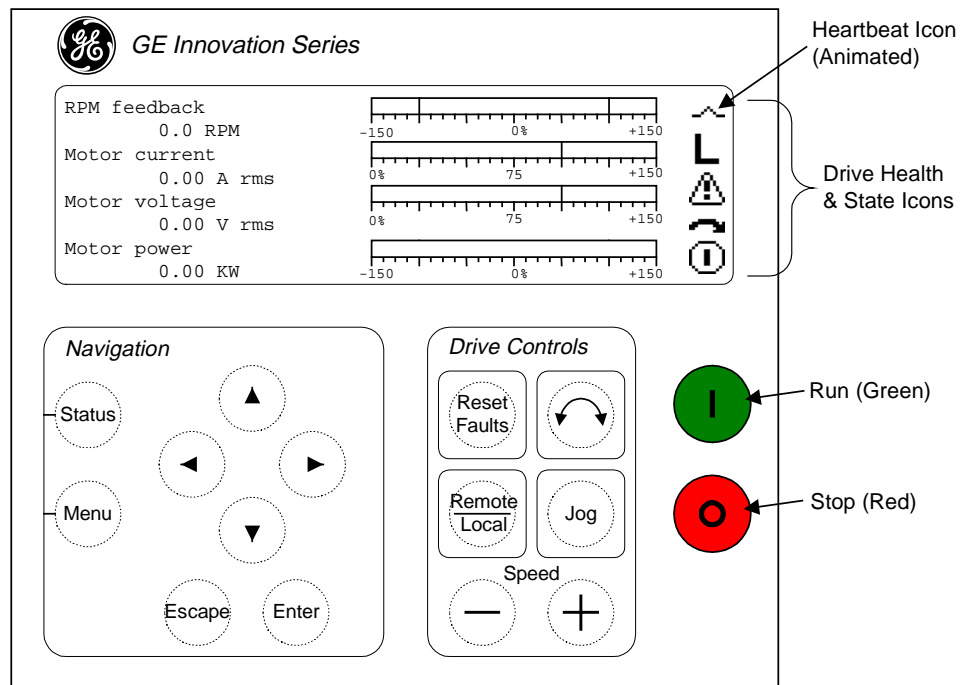

Figure 6-4. Front View of the Keypad
1. Observe that the display's heartbeat icon is pulsing (refer to Figure 6-4). This indicates that the keypad can communicate with the drive. (The cable from the keypad connects to the rack's J10 connector.)